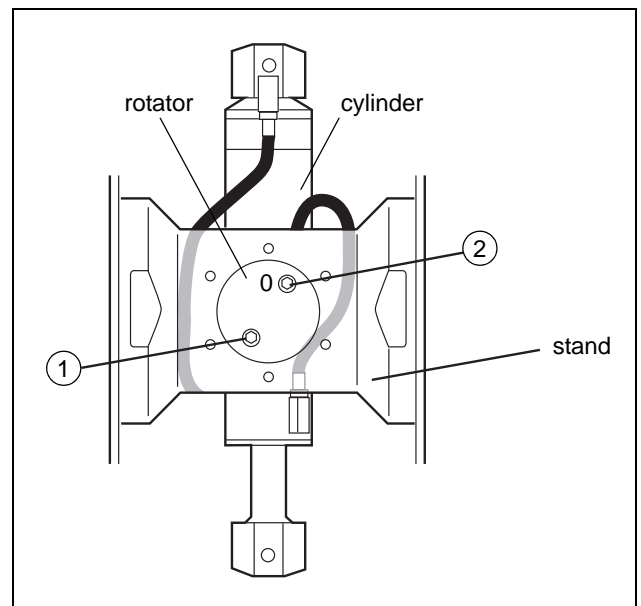

Fig. 11 Connecting the hydraulic hoses
Turn the rotator's hose connections in the direction as shown in adjoining figure. *See Fig. 11.*
4. Connect the hydraulic hoses. *See Fig. 11.*